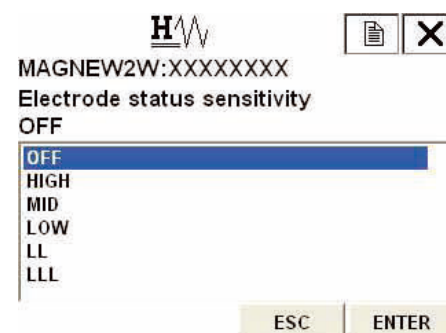

Figure 7-28
Figure 7-28 is then displayed.
2. Once the display as shown Figure 7-28 appears, move the arrow key up or down to select a sensitivity. After marking a selection, press F4 (ENTER). OFF, HIGH, MID, LOW, LL, or LLL can be selected. If F3 (ESC) is pressed here, the selection is canceled and the display returns to the Noise immunity menu.